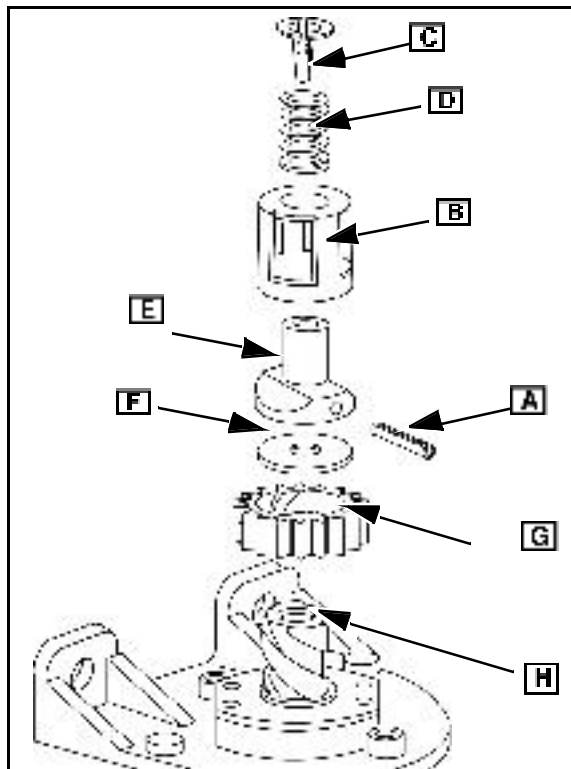

Fig. 37
2. Remove cover (B), upper spring retainer (C), spring (D), clutch retainer (E), washer (F), pinion gear (G) and clutch ([H] Fig. 37).
1. Inspect the pinion gear (G) for damaged teeth.
2. Correct any sticking between pinion gear and clutch ([H] Fig. 37).
Refer to Fig. 37.